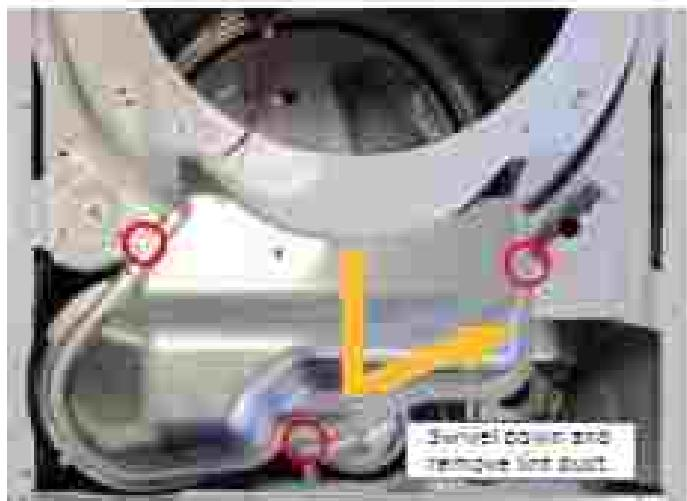

Figure 1 - Remove hot duct screws.
4. Remove the three (3) 1/4" hex-head screws from the hot duct as illustrated in Figure 1. Set the hot duct down and remove.